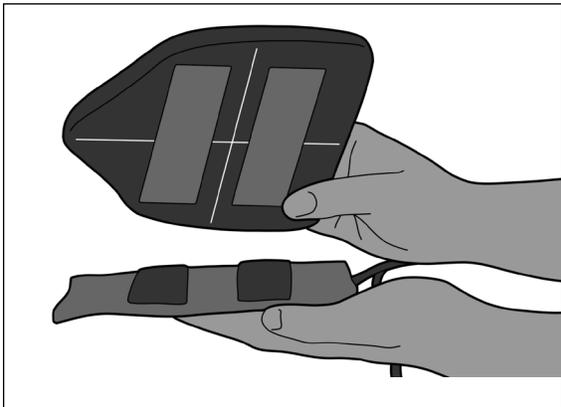

Fig. 1
1. Ensure paddle is appropriately aligned for attachment to the bladder (Fig. 1). Align hook-and-loop fastener.